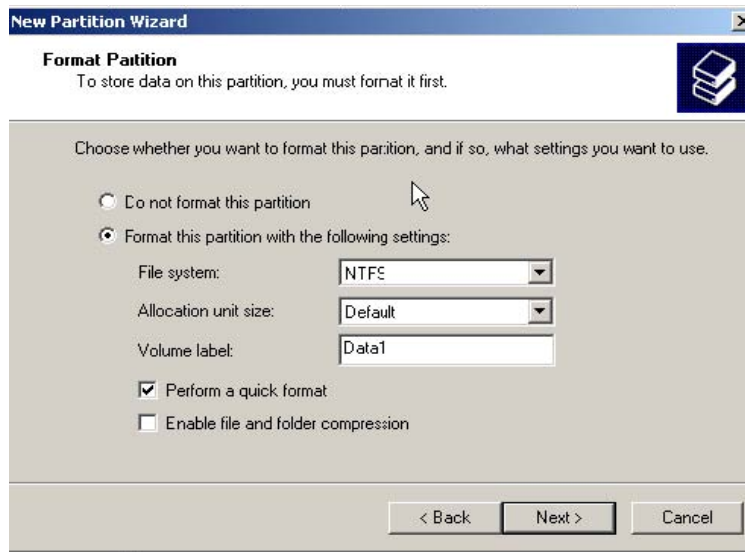

Figure 20
1. Place a checkmark next to *Perform a quick format*. (See Figure 20)